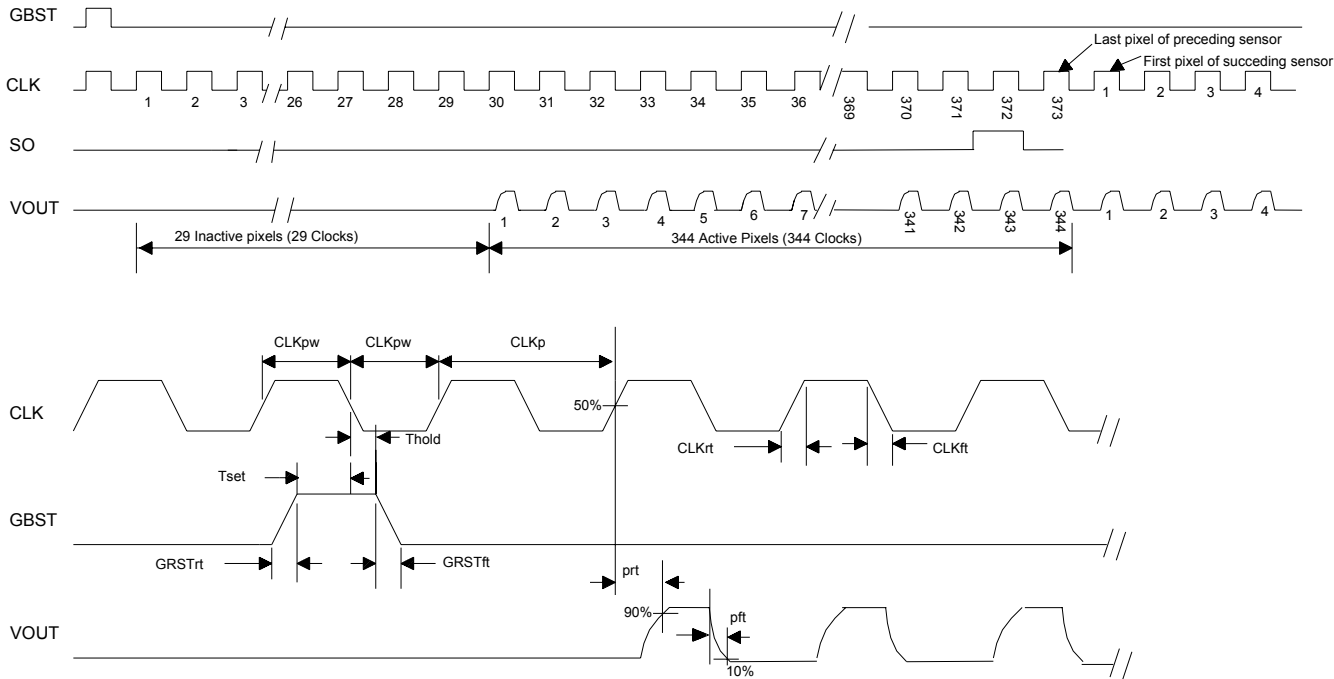

Figure 4. Overall Timing Diagram
The timing requirements and their symbols are listed in Table 5 and its accompanying timing diagrams are shown in Figures 4 and 5.
4. The transition between pixels does not always reach the dark offset level as shown in Figure 4 (Vout). Figure 4 shows the transition doing so for illustration purposes; however a stable pixel sampling point does exist for every pixel.
Figure 4 shows the initialization of the first sensor in relation to its subsequent cascaded sensors. The Start Input Control (SIC) selects the first sensor to operate with 29 clock cycles of delay by connecting it to V_{dd} on the first sensor and to Ground for all subsequent sensors. Hence the first sensor will operate with 29 inactive pixels being clocked out before its first active pixel is clocked out. The rise and fall times are listed in table 5 above. The End of Scan Pulse comes out in line with the second last active pixel, and the last active pixel of each sensor is the 344th pixel which coincides with the 344th clock cycle.